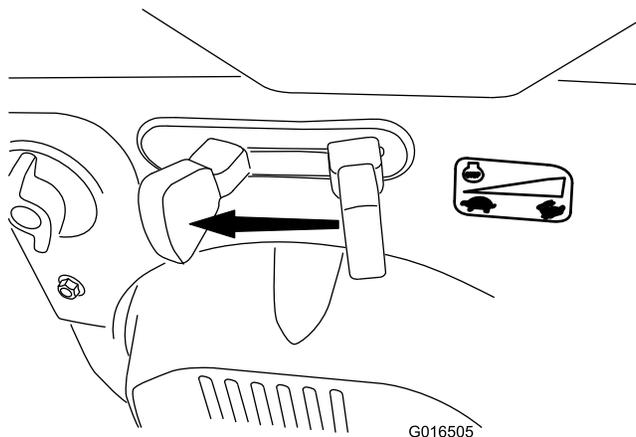

Figure 33
1. Move the throttle to the SLOW position, and then to the STOP position (Figure 33) to kill the engine. The engine can also be stopped by pulling the ignition key outward to the middle position.